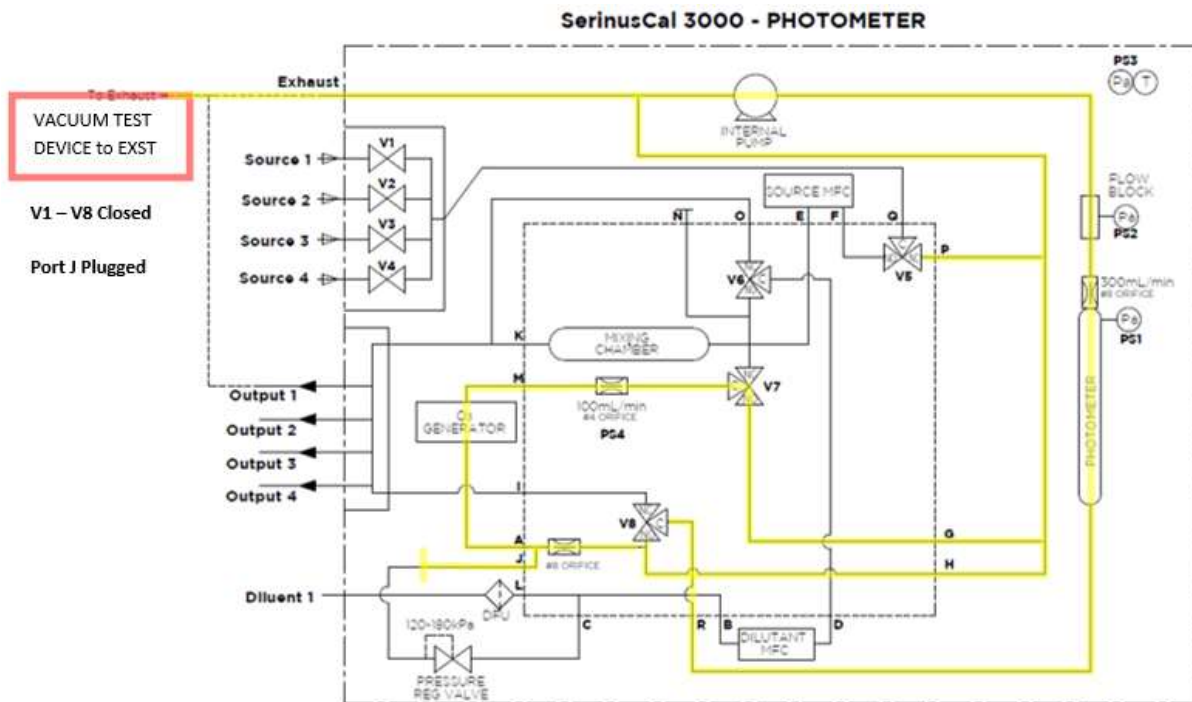

Figure 93 – Leak Check: Isolate Photometer Schematic
- **If a leak test fails** the photometer plumbing is leaking. Refer to Figure 93 and work away from vacuum test device to further isolate and rectify leak.